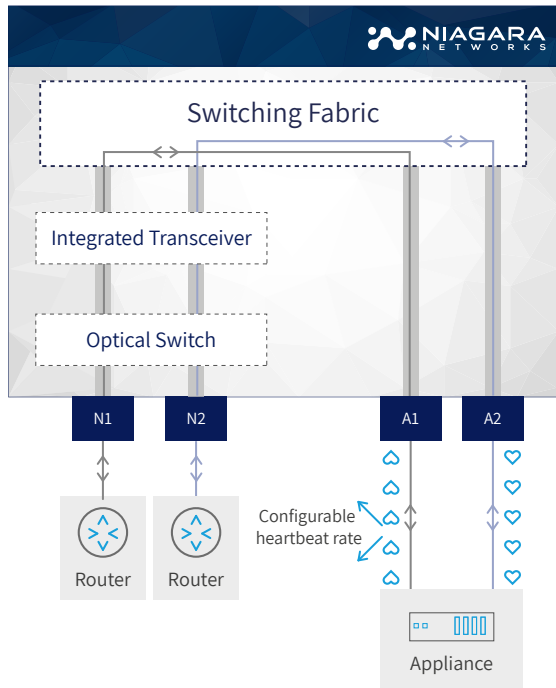
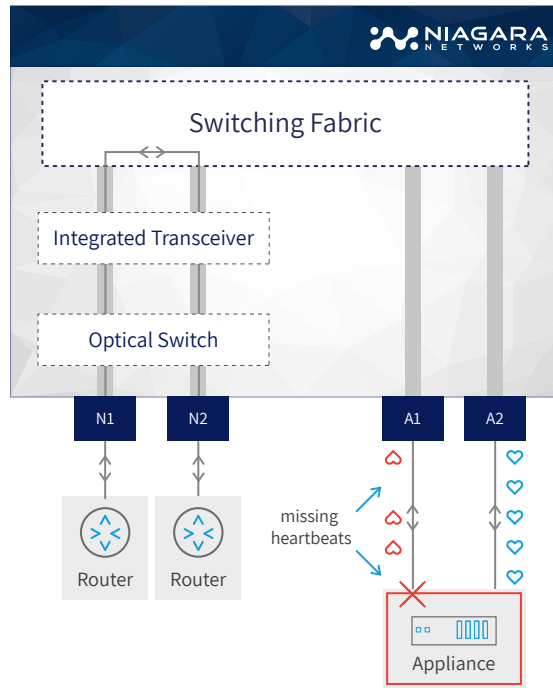

Figure 5: Normal inline Operation Mode
Figure 6: Appliance Failure Mode
**Heartbeat protection** - protecting network traffic flow in case of appliance failures. The BypassP2 transmits a user-configurable heartbeat on the appliance ports as depicted in figure 5. In the event of an appliance malfunction (such as a software crash, system failure or loss of power depicted in figure 6), the failure is detected, and the BypassP2 bypasses the traffic intended for the inline appliance to the network ports, allowing it to continue to flow through the network link. This feature also enables the network appliances to be removed and replaced without network downtime. Once the system is back up, or the power is restored to the appliance, it is detected by the BypassP2 heartbeat mechanism, and network traffic is seamlessly diverted back to the inline device, allowing it to resume its critical functions.